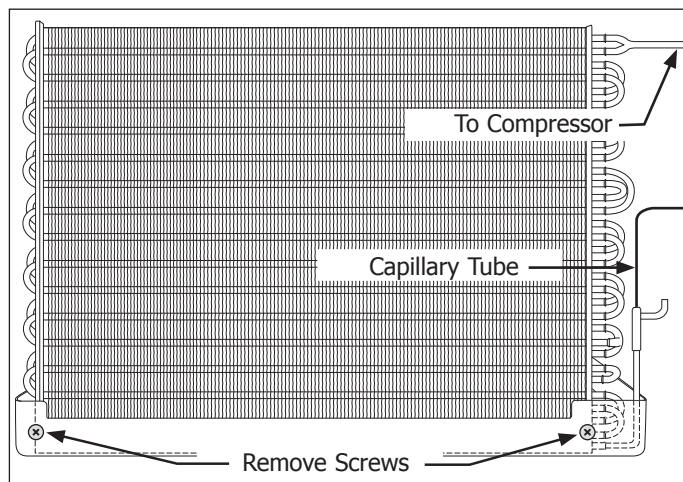

Figure 4-122.
8. Extract the two screws securing the bottom of the condenser to the unit base. (See Figure 4-122)